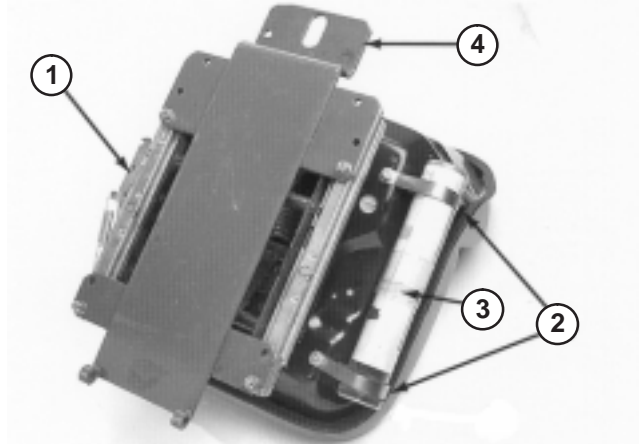

Figure 7
1. Mount seat suspension assembly to (4) capscrews on seat bottom and secure with (4) lockwashers, flatwashers and nuts (Fig. 7).
2. Loosely secure (2) R-clamps to right side of seat bottom with (2) capscrews and flatwashers supplied in kit (Fig. 7). Install manual tube into R-clamps and tighten capscrews (Fig. 7).
3. Mount seat support over four threaded studs at the bottom of seat suspension assembly and secure in place with lockwashers and nuts (Fig. 7).
Note: When mounting seat suspension, use forward set of mounting holes for a shorter operator, as shown in figure 7, or rear set for a taller operator.